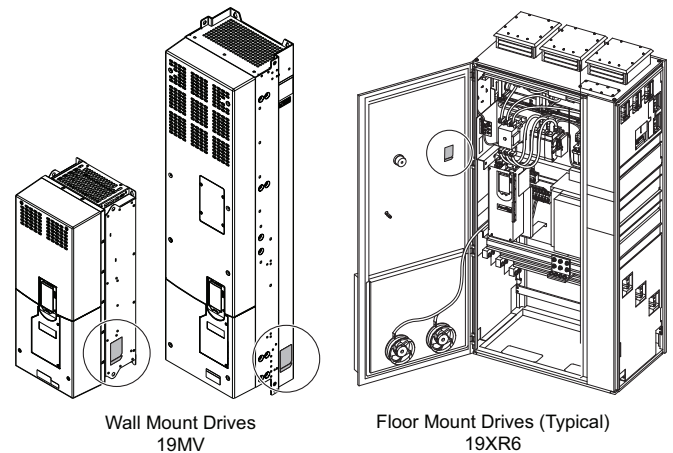

Fig. 2 — Opening Access Door
1. Using recommended screwdriver (6.4 mm [0.25 in.] flat or T20 star), open access door. See Fig. 2.